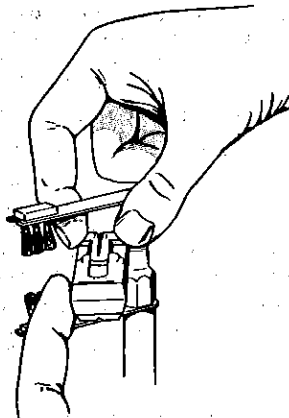

Figure 12. Replacing Upper Stylus.
3. Hold the tone arm against the stylus brush post, *Figures 12 and 13*. Slide worn armature assemblies out of pickup by gripping the top portion of the "T", using the thumb and forefinger. Light pressure in the direction away from the stylus point will slide the armature out of the cartridge slot.